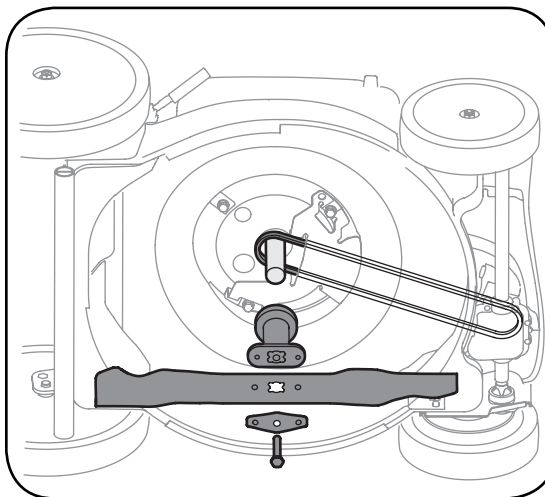

Figure 12
1. Remove the bolt and the blade bell support which hold the blade and the blade adapter to the engine crankshaft. See Figure 12.
7. Install the blade adapter on the crankshaft with the "star" away from the engine. See Figure 12. Place the blade with the side marked "bottom" (or with part number) facing away from the adapter. Align the blade bell support over the blade with the tabs in the holes of the blade and insert the hex bolt.